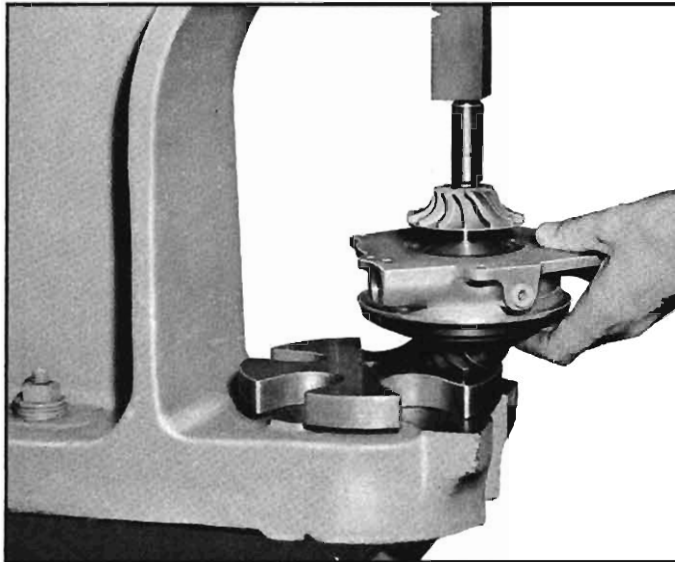

Fig. 9-56—Impeller Installation
15. Press the impeller onto the shaft, using a hollow spacer such as Tool J-6880 until it bottoms in place (fig. 9-56).